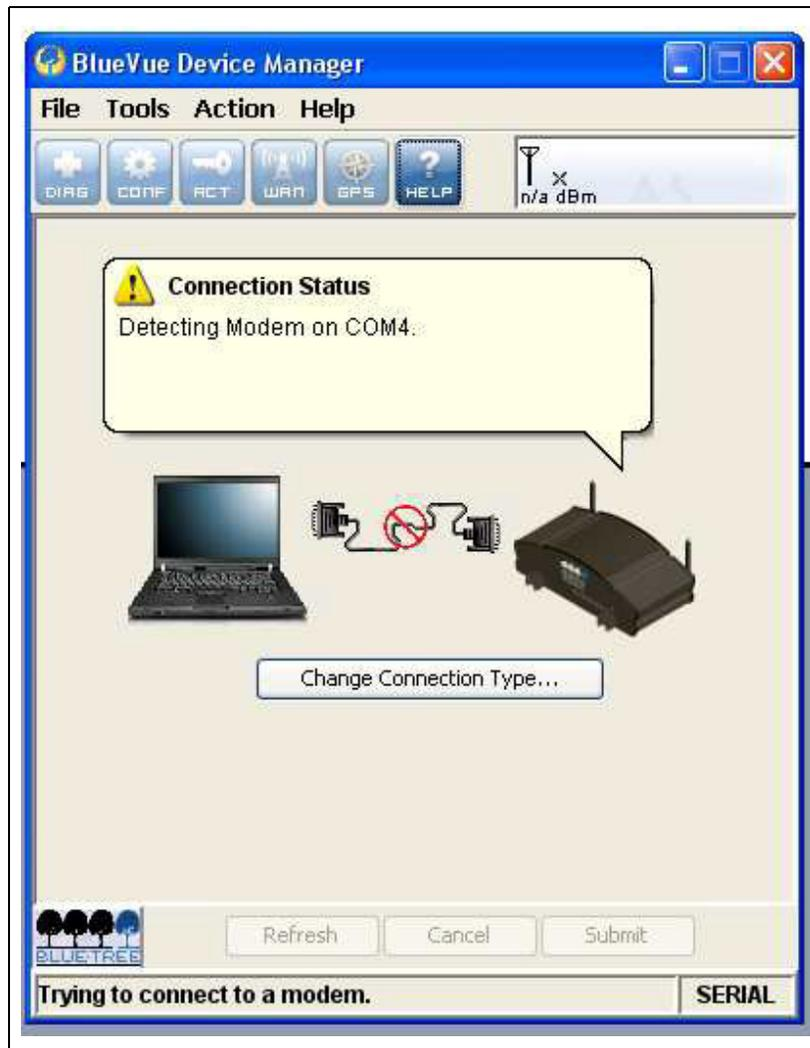

Figure 9A Initial Blue-Tree Screen
2. After performing Step 1, run the Blue-Tree software and the following screen should appear. (See Figure 9A.) Wait for the MODEM to be detected. This could take several minutes.